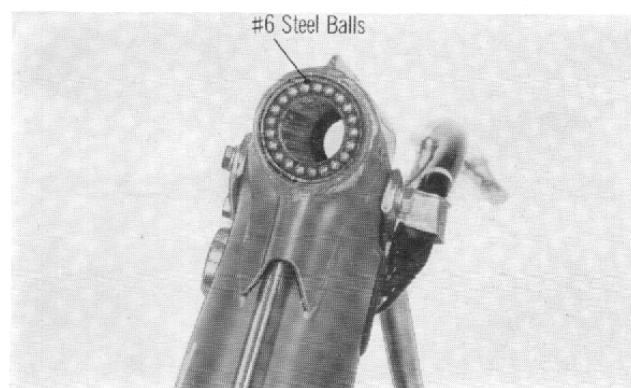

Fig. 62
- (1) Inspect the #6 steel balls for crack and wear. (Fig. 62).
- (2) Inspect the steering stem for bend and twist.
- (3) Inspect the steering bottom and top cone races and ball races, for scratch, wear and streaks.